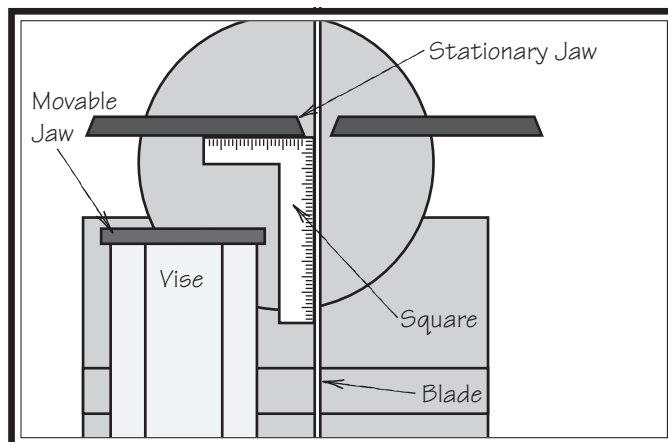

Figure 43. Testing vise/blade squareness.
3. Lower the headstock, then place a square flat on the table and against both the stationary jaw and the blade, as shown in **Figure 43**.